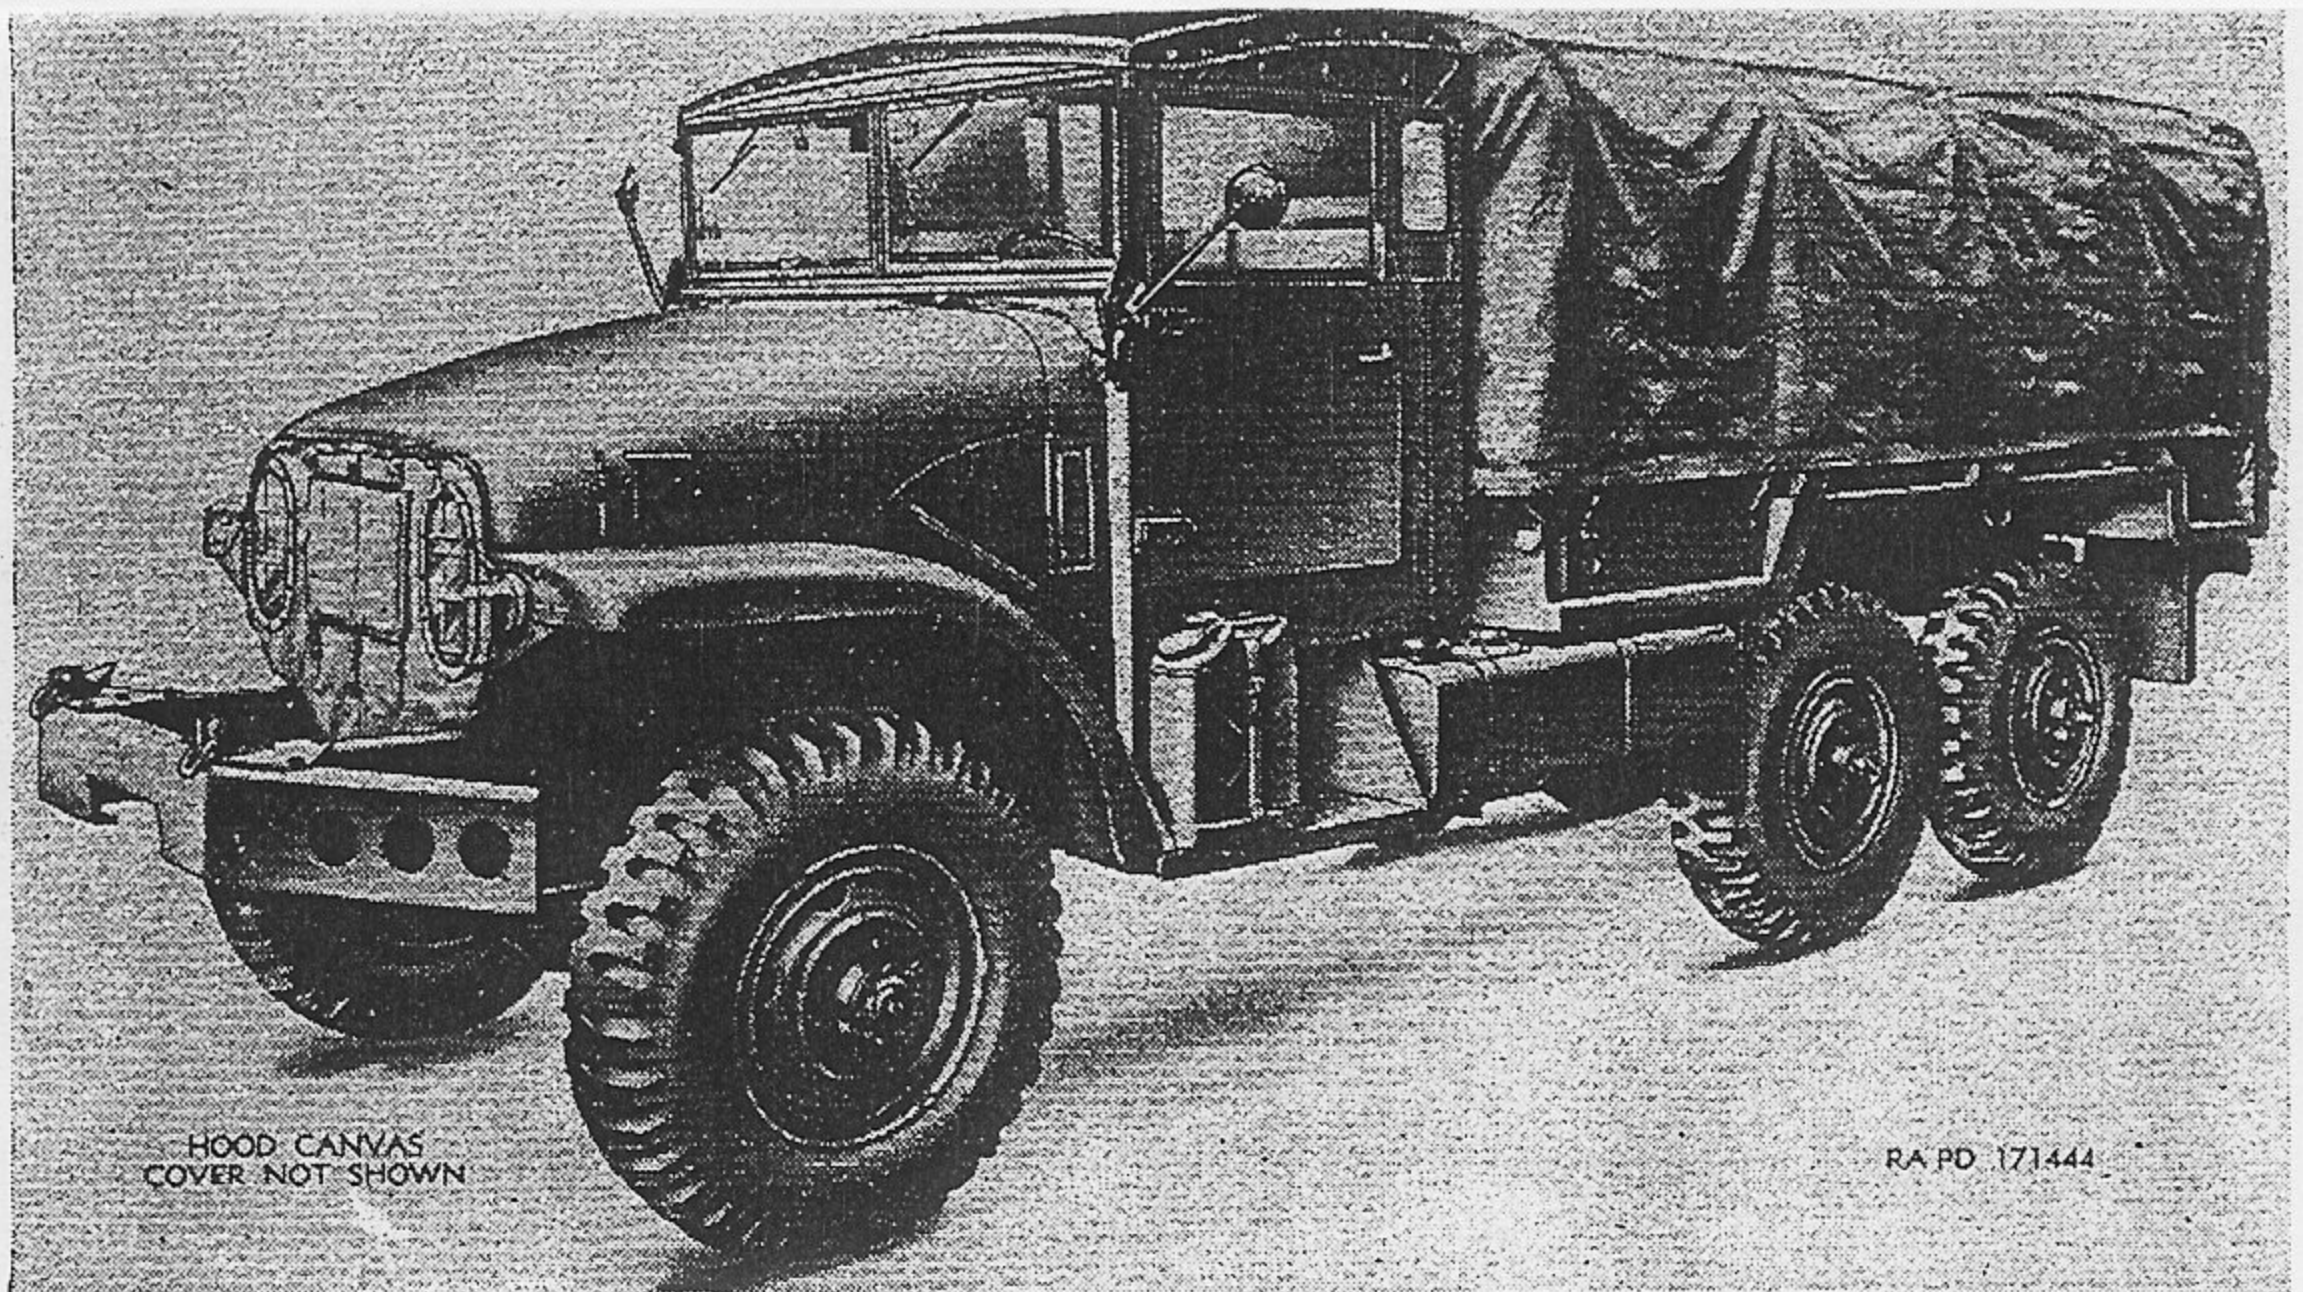

Figure 1. 2½-ton 6X6 cargo truck M135 (GMC)—hard-top closure kit installed.
**1. Scope.** *a.* These instructions are published for the information and guidance of all personnel concerned with the installation of the hard-top closure for the 2½-ton 6x6 cargo truck M135 (GMC) (fig. 1) having a 24-volt electrical system.